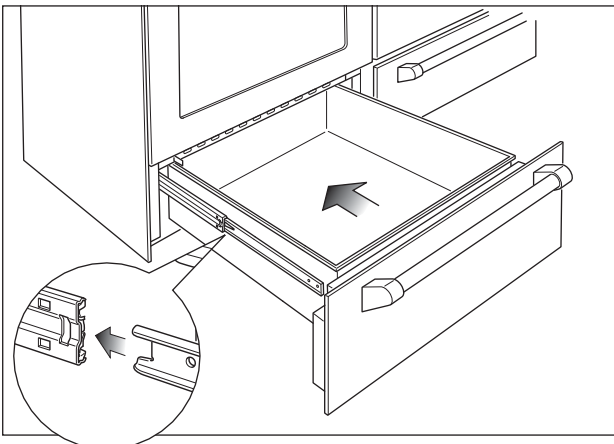

Fig.49b Replacing the drawers
- 1 Insert the drawer guides into the guide rails (Fig. 49b).